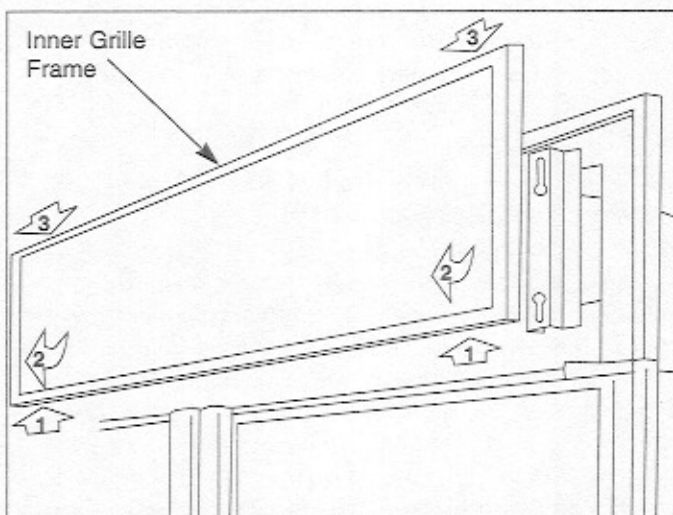

Figure 7-18. Inner Grille Frame Removal
The panel grille assembly consists of an outer and an inner grille frame. The outer grille frame attaches to the unit, while the inner grille frame (which accepts a decorative panel) is easily removable for condenser cleaning purposes. There are pegs on the back side of the inner grille frame which fit in key-hole slots in the outer grille frame. To remove the inner grille frame, lift assembly up (1) and pull out of key-hole slots at the bottom (2). Then, pull down and out of key-hole slots at the top (3). (See Figure 7-18.)